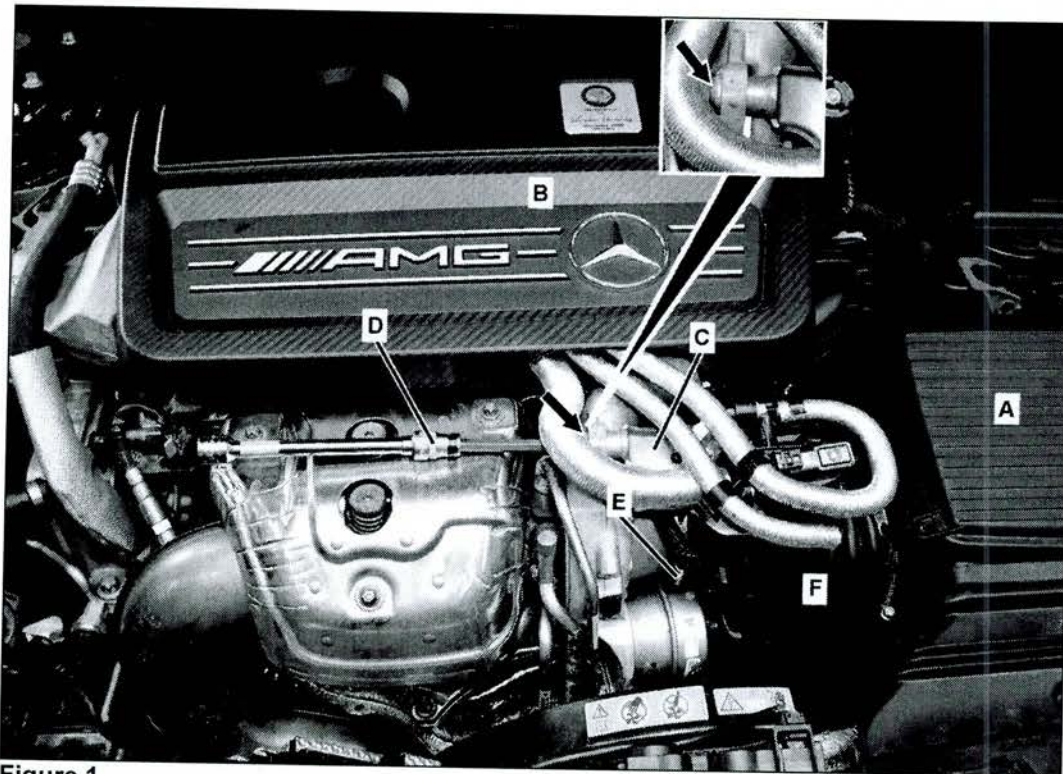

Figure 1
1.  Remove air filter housing (A, Figure 1) refer to WIS: AR09.10-P-1150MTA.
2.  Remove engine cover (B, Figure 1):
3. Remove intake hose (F, Figure 1) for turbocharger:
- Remove bolt (arrow, Figure 1) using a long T45 torx bit (D).
- Loosen clamp (E, Figure 1) then place intake hose (F) for turbocharger along with attached bracket (C) and ventilation hoses to one side (as an assembly).